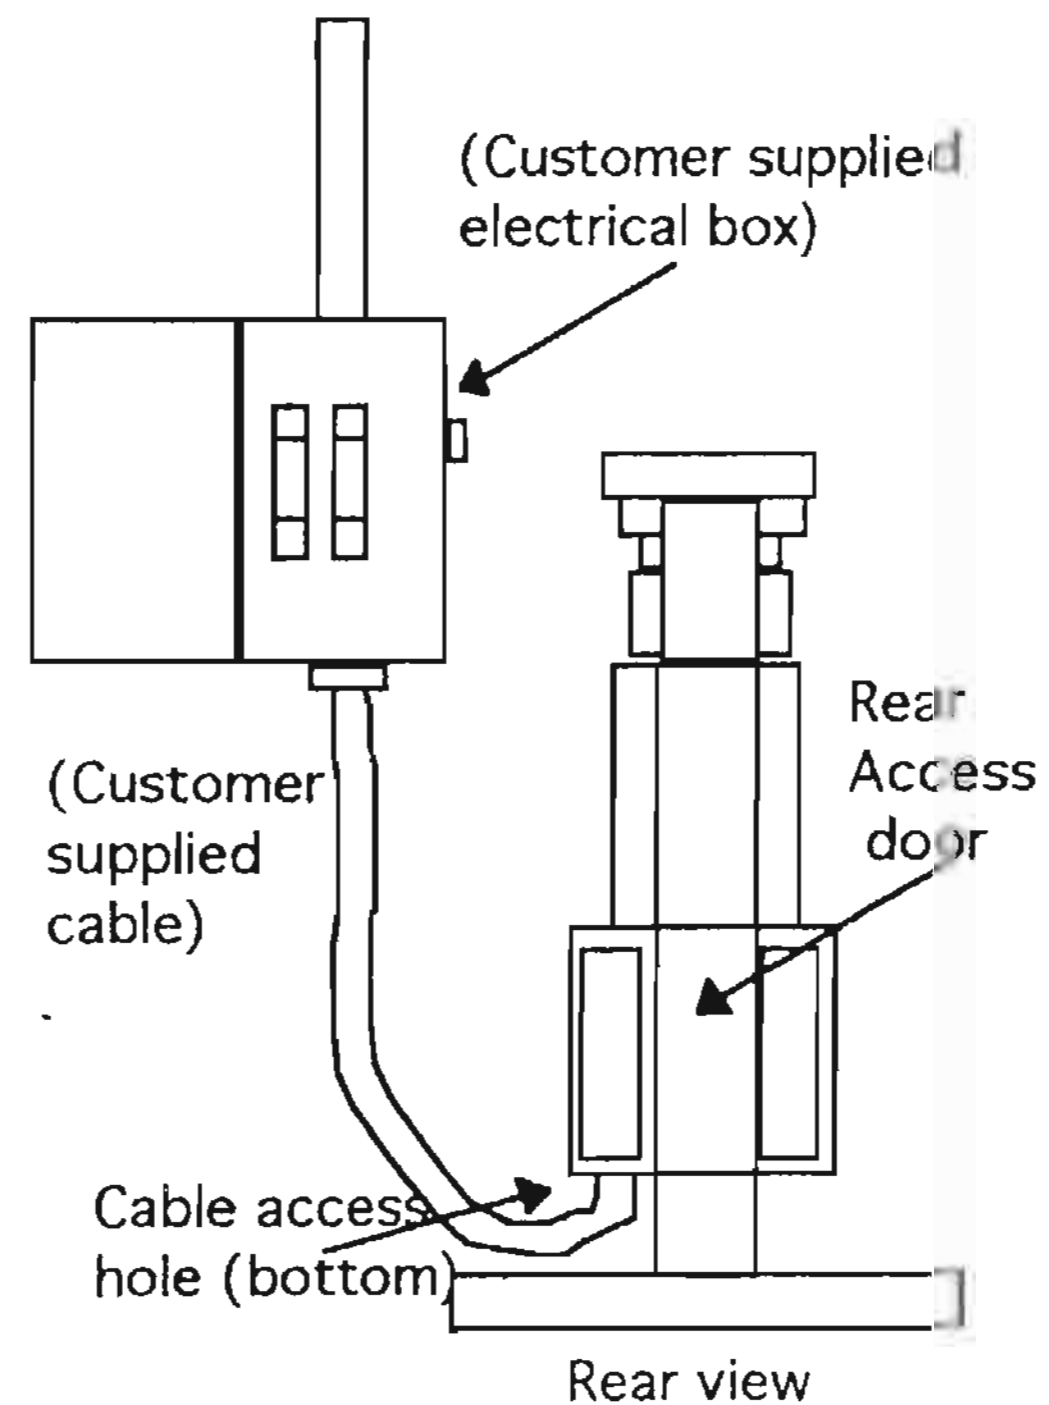

FIG 3-1
3. Refer to Fig 3-1. This type of setup permits safe and easy power removal from the welder, should it become necessary to perform minor adjustments or maintenance.